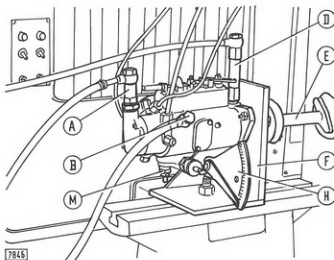

Fig. 77 - Injection Pump in Position on Test Machine
Place the pump on the test machine, fit the drive coupling No. **290756** and establish the following hydraulic connections (see Fig. 77):—
- Test machine return line to drain connector No. **290750** (D, Fig. 77).
- Slacken vent screw (95a, Fig. 69) on control cover, and connector (B, Fig. 77).
Remove cap screw (76, Fig. 69) from the advance device and fit gauge No. **290743** (H, Fig. 77) with the pick-up inserted in the hole of spring plate (70, Fig. 71). On 3-cylinder engine applications, also fit connector No. **290760** (M, Fig. 77) in replacement of manual start-retard control; this connector promotes advance reading accuracy in that it reduces reference pointer flutter.